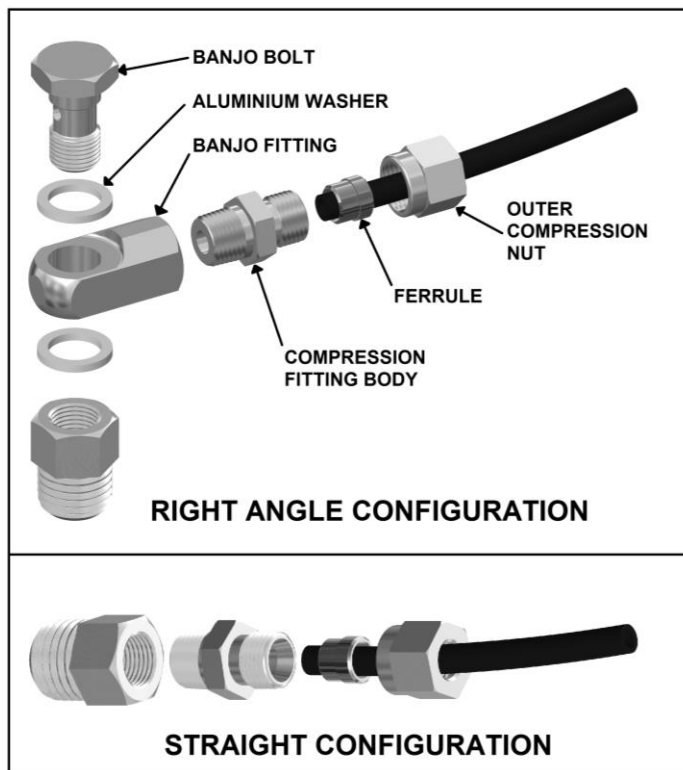

Figure 23.
- ☐ Assemble an aluminium washer onto the banjo bolt and insert through the banjo fitting. Assemble second aluminium washer and tighten into bulkhead fitting using a 14mm [9/16"] spanner. (Fig.23.)
- ☐ Insert the outer compression nut and ferrule over the air line. Ferrule should be orientated as per Fig.23.
NOTE : When right angle routing of the tube is not required, screw the compression fitting body straight into the bulkhead fitting body (Fig.23.).